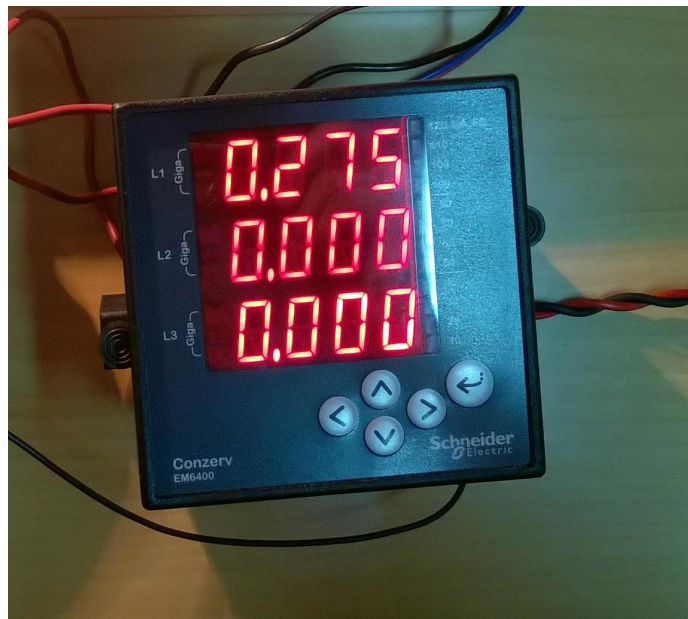

Figure 11.9: Single phase current output in energy meter
1. Single phase current output: Fig. 11.8 and Fig. 11.9 show Scilab code output of current in Amperes and corresponding snapshot of energy meter display with a single load rated 60W-230V.